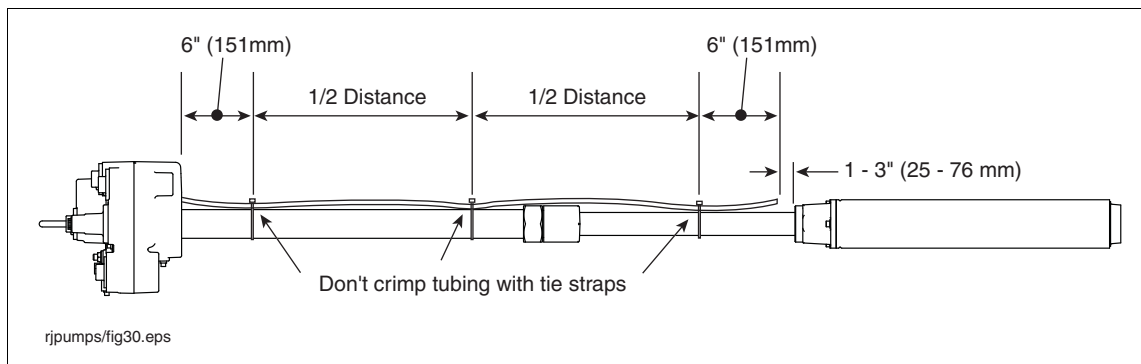

Figure 13. Attaching Return Line Tubing To Pump
9. Secure the siphon return line tubing to the column pipe with tie straps. Locate the tie straps approximately 6 inches (152 mm) from manifold, 6 inches from discharge head and in the middle of the tubing (see Figure 13).